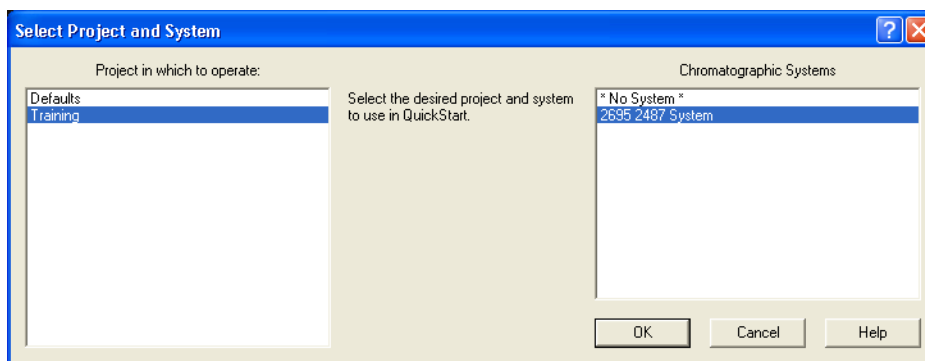

Figure 4-1 Select Project and System Dialog Box
1. Log in to your Empower software (see Section 3.2, *Starting Up and Logging In*). The Select Project and System dialog box appears (Figure 4-1).